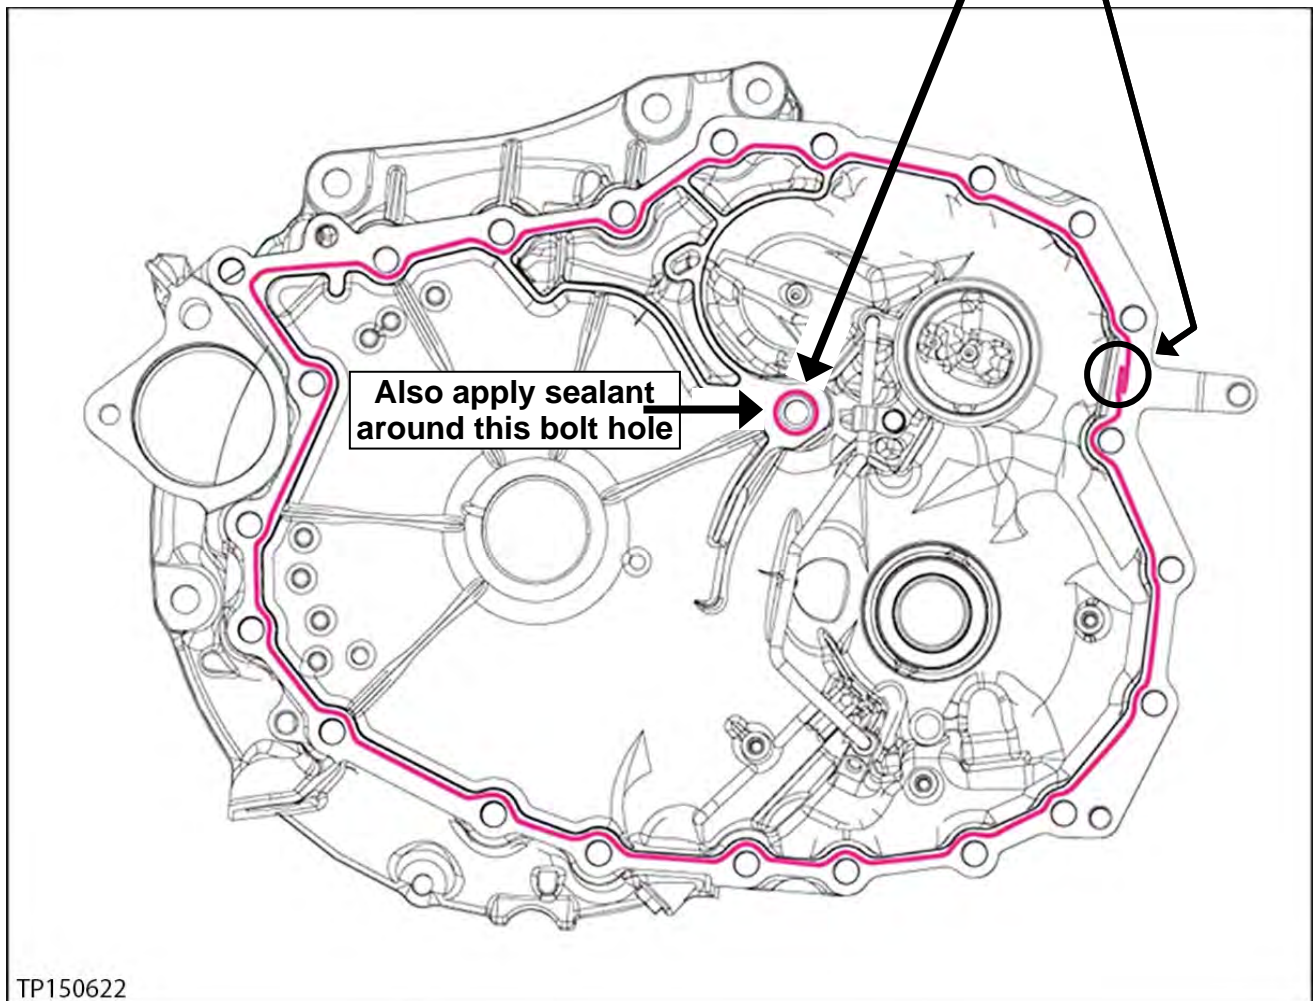

Figure 173
140. Apply one continuous 2.0 mm (**0.8 inches**) diameter bead (Figure 173) of pink colored Loctite 5460 Sealant (see the **PARTS INFORMATION** section of this bulletin).
- Before sealant application, make sure the mating surfaces are clean from oil, dirt, old sealant, etc. (Figure 173).